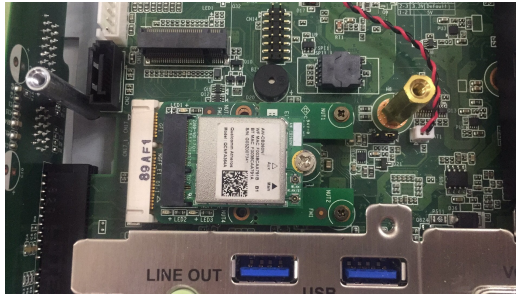
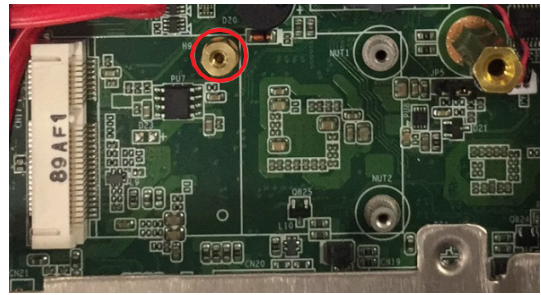

Figure 2.16
Figure 2.17
1. Follow the procedures in Section 2.3 to open the rear cover and strength-plate. The wireless LAN card can be installed to the locations as indicated in Figure 2.16. For the wireless short card, you need to take out one hexagonal screw from the accessory box to attach it with (Note: If a half-size PCIE card is used, then the screw circled in red should be tightened up too, See Figure 2.17).